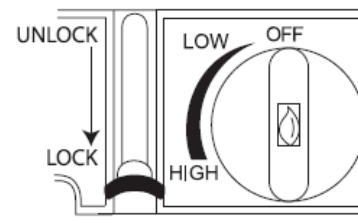

Fig. 3
3. Push the cartridge lock down to LOCK in one firm motion (Fig 3)